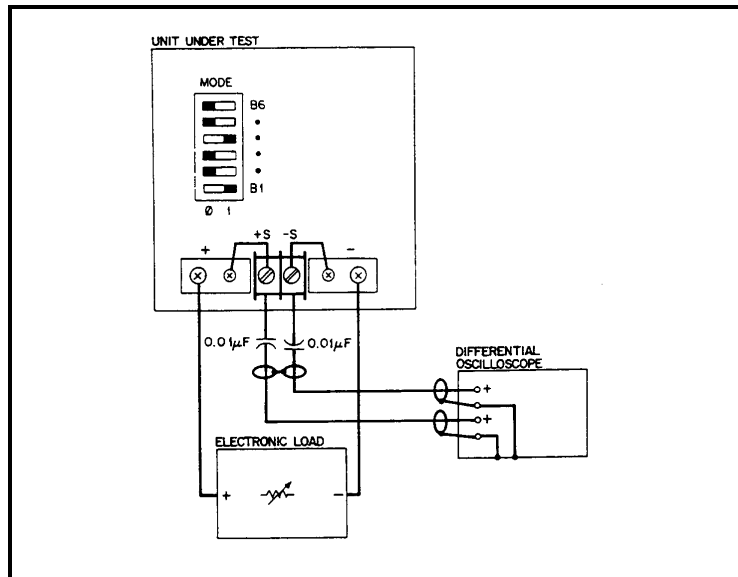

Figure 2-5. Peak-To-Peak Measurement Test Setup, CV PARD Test
Peak Measurement Procedure. Figure 2-5 shows the interconnections of equipment to measure PARD in V_{pp} . The equipment grounding and power connection instructions of PARD rms test apply to this setup also. Connect the oscilloscope to the + OUT and - OUT terminals through 0.01 μF blocking capacitors to protect the oscilloscope's input from
- a. Connect the test equipment as shown in Figure 2-5. Operate the load in constant resistance mode (Amps/Volt) and set resistance to maximum.